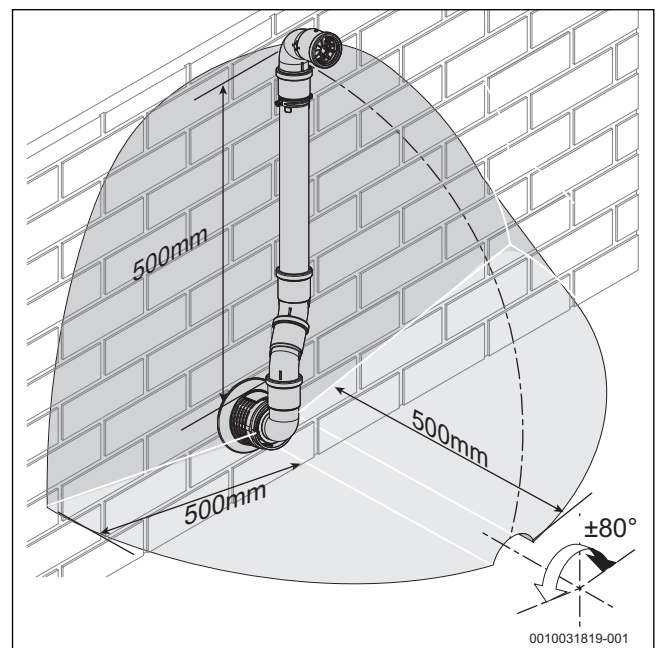

Fig. 26 Terminal exclusion zone
- Do not terminate the plume management inside the terminal exclusion zone (shaded area) shown in figure 26.